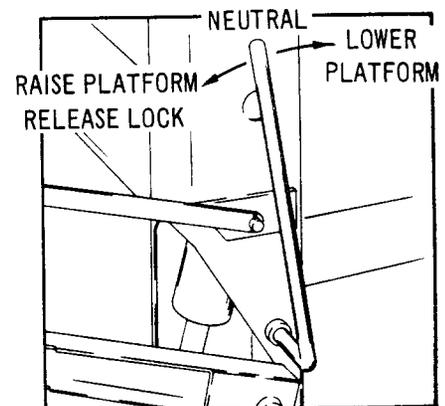

Fig. 11
12.02 To start power take-off models with control lever (Fig. 11) in "neutral," engage power take-off to start pump running. Throttle
(a) Electric model units will operate immediately upon operation of control lever (Fig. 11).
12.03 The control for raising or lowering platform is located on right side of lift gate. Refer to Fig. 11 for the following operations:
(a) Lower platform by pulling control lever (Fig. 11) back to release the safety lock, then push forward to open the control valve. Platform will lower to ground level.